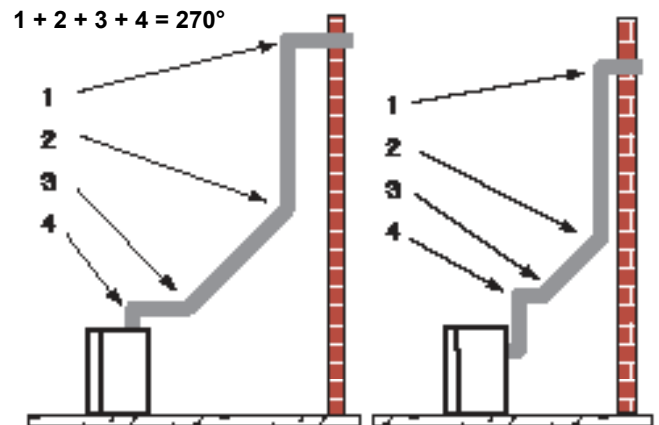

Figure 38 – Maximum Elbow Usage
- The maximum number of 45° elbows permitted per installation is six (6). These elbows can be installed in either the vertical or horizontal run.
- The maximum number of elbow degrees in a system is 270°. Figure 38